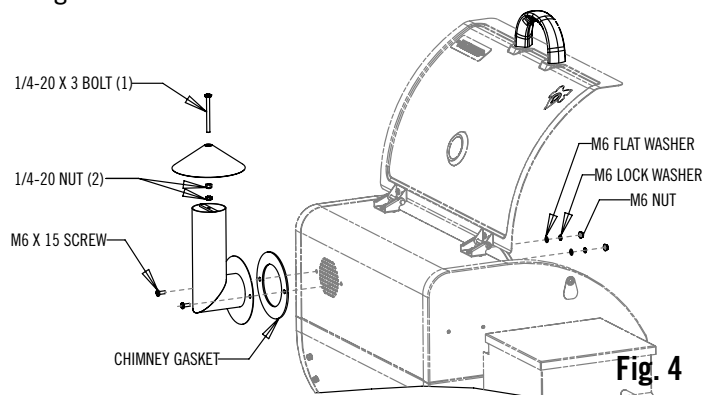

**Fig. 3**
4. Assemble Qty (2) Wheels to the legs as shown in Fig 3 using Qty (2) Wheel Axles, Qty (2) M8 Flat Washers, and Qty (2) M8 Nyloc Nuts. Tighten axle hardware with a wrench.